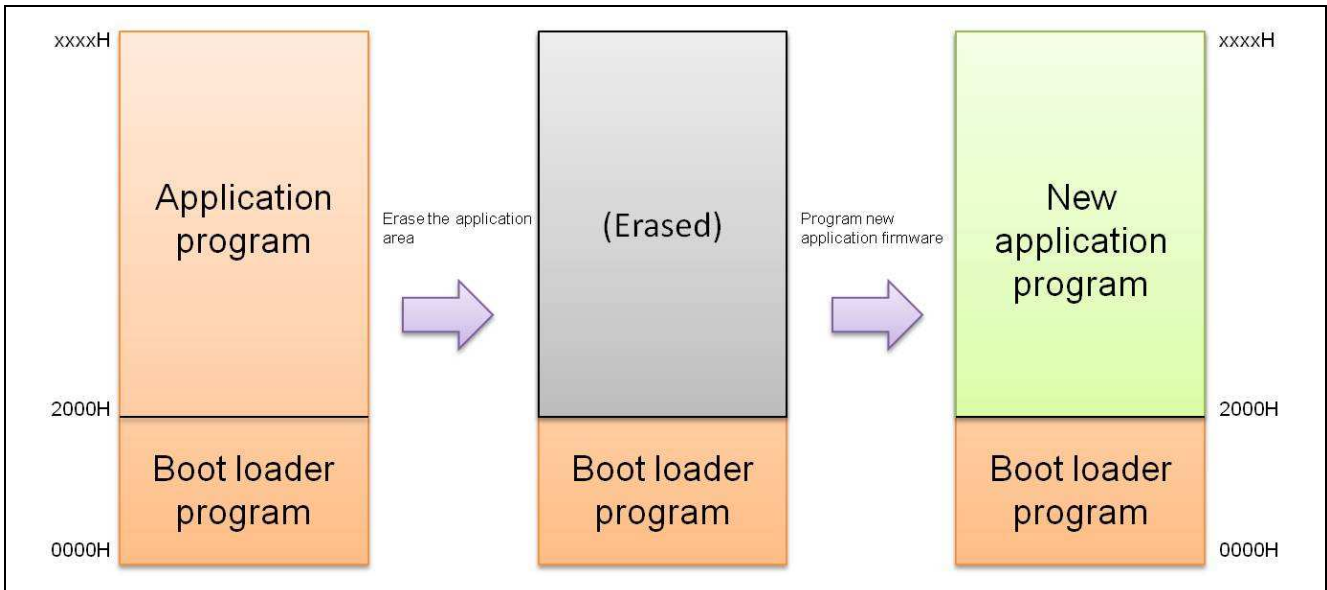

Figure 4 Application program update
- The boot loader is used for updating user’s application program and boot loader itself. To rewrite flash memory, it uses self-programming library of RL78/G13 for programming actions. In this application note, the flash memory is mainly separated into two parts, boot loader area and application program area. To update application program, the updating procedure erases the application area, and then writes new application firmware into application program area. Figure 4 shows the procedure diagram.